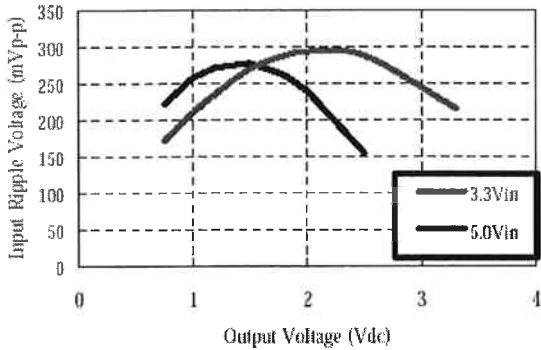

Figure 6 Input voltage ripple VS Output voltage
1. 2 \times 100 μ F tantalum // 47 μ F ceramic ---- Figure 6